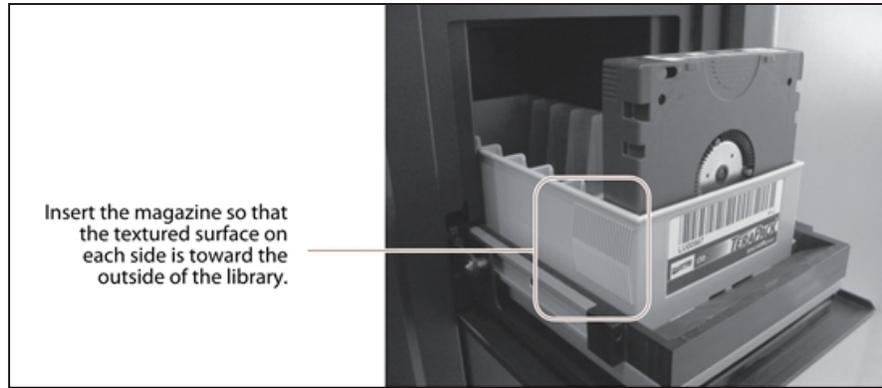

Figure 85 Insert a magazine into the TAP, making sure that it is correctly oriented.
3. Insert the magazine into the tray on the open TAP with the textured surface side toward the outside of the library, as shown in Figure 85 on page 153.
4. Click **Open TAP** to access the exported magazine. Exchange the magazine or any desired media in the TAP then click **Close TAP**. If you exchange a magazine, make sure the new magazine is oriented correctly (see Figure 85 on page 153).